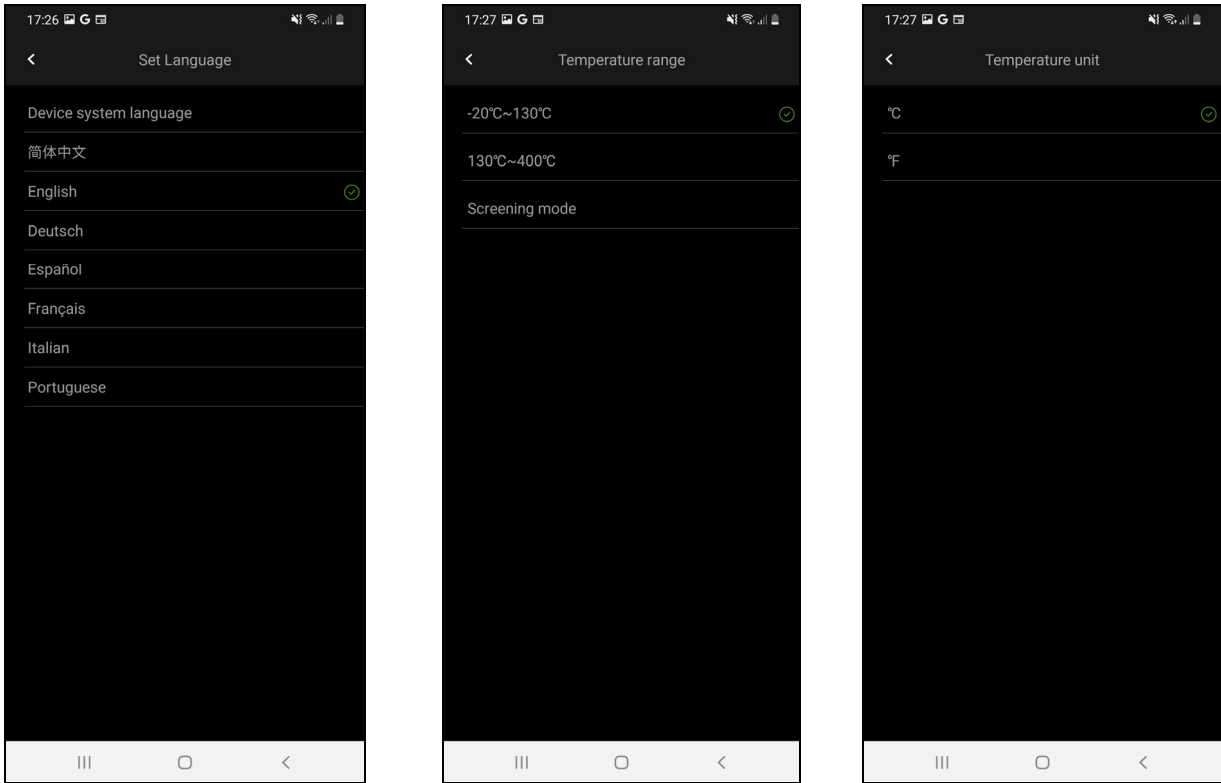

Fig. 5: Visualization of settings section
- **Set Language** → allows the selection of the language of the application from those available. The "Available system language" option allows automatic selection of the system language of the mobile device (see Fig. 5 – left side)
- **Temperature Unit** → allows the selection of the unit of measurement of temperature among the options: $^{\circ}\text{C}$ and $^{\circ}\text{F}$ (see Fig. 5 – right side)